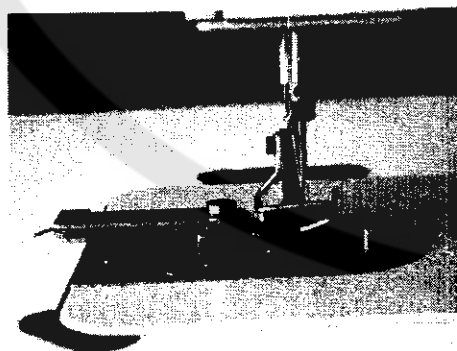
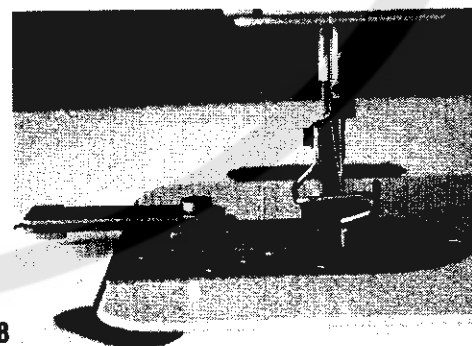

Fig. 6
Fig. 8
Remove the needle. Using the lifting lever (12) lift the presser foot. Place the locating fixture (Fig. 6) under the presser foot. Loosen the the screw (14) and shift the guide (15) in such a way, so that it fits on the lifting sheet (16). Tighten then the screw (14). Remove the locating fixture and lower the presser foot onto the throat plate. Loosen the screw (17) of the lever (18) and set the lever 1 mm above the upper shaft (19). In this position, tighten duly the screw (17). check the axial clearance of the shaft (20) which is to be the least possible. Lift the presser foot using the knee lever or pedal and check its lifting using the locating fixture (Fig.8).